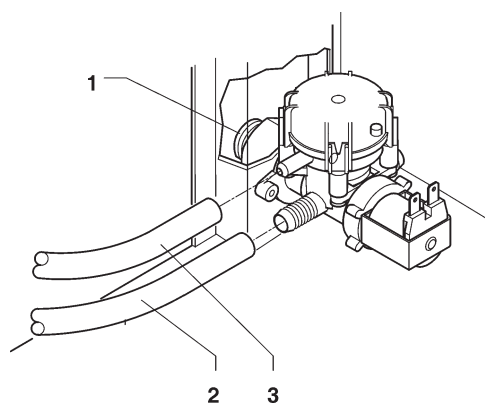

Fig. 15
Connect the supply line with the 3/4" hose bibb connection on water inlet solenoid valve by means of a tube (also available as a kit) that can support the supply the pressure and of a type suitable for foodstuffs (min. inner diameter 1/4".) (see fig. 15).
The water inlet solenoid valve (see fig. 15) is complete with an antiflood device that can mechanically lock the water inlet as a result of a malfunction of the solenoid valve or the water level control gear in the boiler.
- loosen the union intended to fasten the supply tube of the solenoid valve to discharge the residual supply line pressure and tighten it again (see fig. 15);